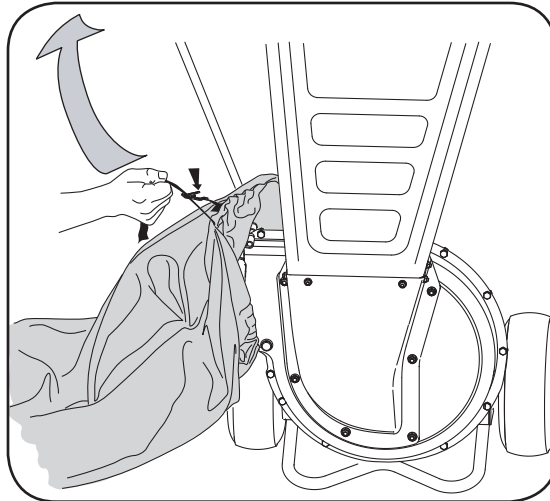

Figure 2
- c. Pull on the drawstrap until the bag is tight around chute deflector opening. See Figure 2.